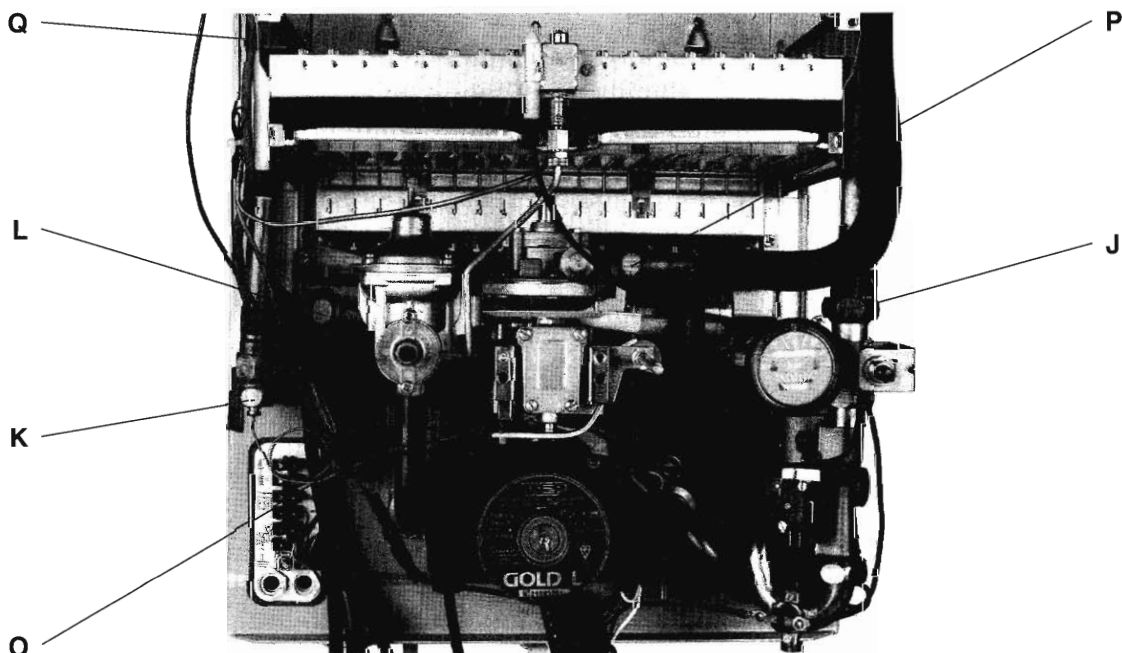

Figure 24
SECTION 14 : TO REPLACE THE HEAT EXCHANGER (Figure 24)
- 14.6. Disconnect the brass union nut K and draw out the thermostat phial from the base of the D.H.W. flow pipe (Figure 24).
- 14.7. Disconnect the D.H.W. flow bulkhead union O (Figure 24).
- 14.8. Disconnect the D.H.W. from the water valve nuts P (Figure 24).
Unclip wire from domestic hot water flow Q (Figure 24).
- 14.10. Remove the circlip N retaining the automatic air vent pipe, lift upwards to disengage the O-ring connection, and remove the assembly (Figure 24 bis).
Figure 24 bis